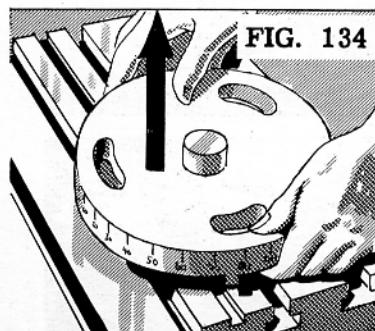

FIG. 134
4. Remove the base from the table (Fig. 134).